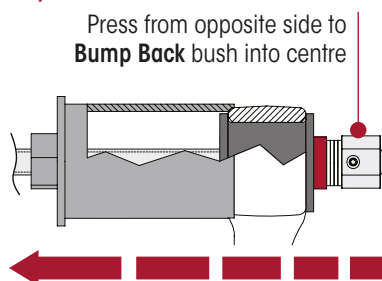
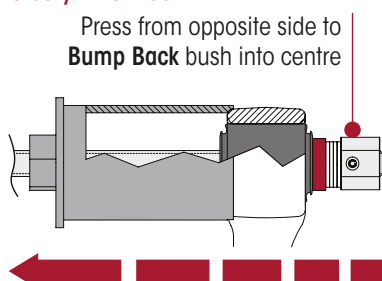

Figure 96: Heavy-duty Bush Tool Configuration AFTER Bump Back
Figure 97: Severe-duty Bush Tool Configuration AFTER Bump Back
This is known as the "Bump Back" procedure. Refer Figure 96 and Figure 97.
7. Severe-duty Pivot Bushes – Snap the thrust washers onto the bush, (refer Figure 98) and ensure there is free play on both washers (refer Figure 99). If one washer does not seat properly or is very snug use a dead blow hammer to centre the bush. If a dead blow hammer is not sufficient, the installation tool must be used to perform a secondary "Bump Back" procedure to centre the bush. Refer Figure 97.
9. Allow the lubricant four (4) hours to dissipate before fully operating the vehicle.